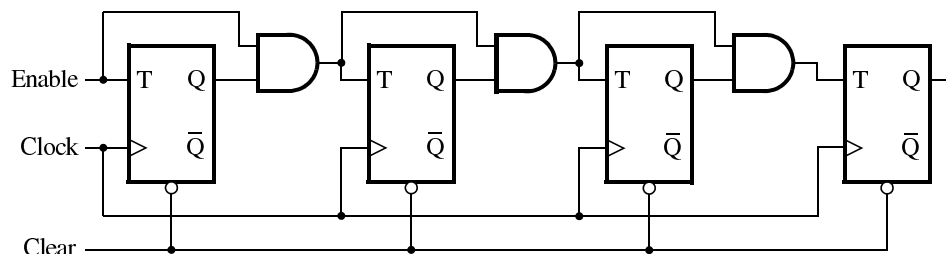

Figure 1: A 4-bit counter.
Consider the circuit in Figure 1. It is a 4-bit synchronous counter that uses four T-type flip-flops. The counter increments its value on each positive edge of the clock if the *Enable* signal is asserted. The counter is reset to 0 by setting the *Clear_b* signal low – it is an active-low asynchronous clear. You are to implement an 8-bit counter of this type.
1. Write a Verilog file that defines an 8-bit counter by using the structure depicted in Figure 1. Your code should include a T flip-flop module that is instantiated 8 times to create the counter (i.e. structural Verilog). Compile the circuit. How many logic elements (LEs) are used to implement your circuit? What is the maximum frequency, F_{max} , at which your circuit can be operated? (Use TimeQuest in Quartus to determine the maximum frequency F_{max} – Refer to *Using TimeQuest Timing Analyzer* document found on the Altera website.)
5. Use the Quartus II RTL Viewer to see how the Quartus II software synthesized your circuit. What are the differences in comparison with Figure 1?